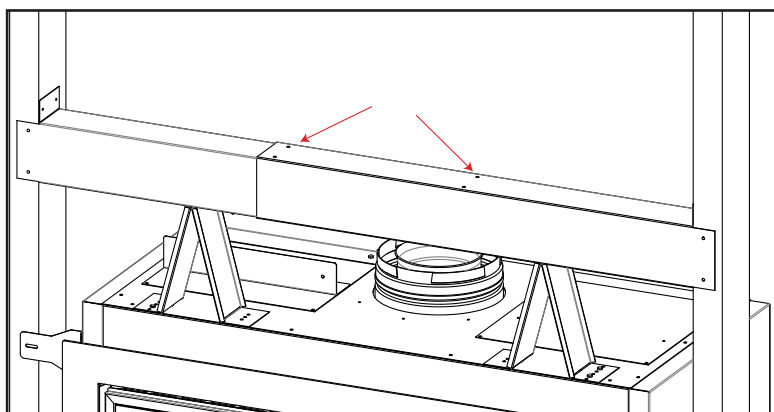

Figure 17: Steel Stud Installation
- Using the provided sheetmetal screws, attach the two steel stud pieces together using the labeled holes in Figure 17. This should be done on the top and bottom of the steel stud to ensure its rigidity.